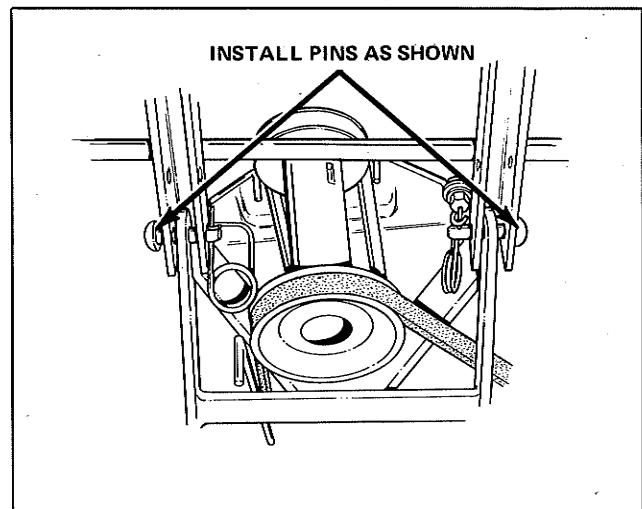

Figure 3. Attaching Mower
5. Attach the mower hitch to the rear holes in the front axle mounting points (figure 3), using the two pins and safety clips provided.
6. Slip the mower drive belt on the engine PTO pulley (figure 3).